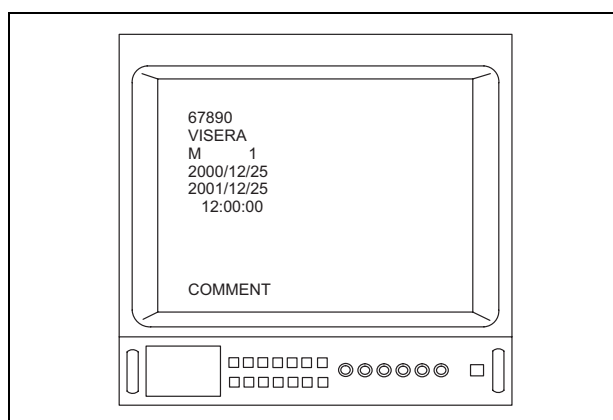

Figure 5.53
Press the “F2” key. Pressing this key toggles between display on and off. Then the patient data that is selected in “Selecting patient data to be displayed” on page 104 is displayed on the video monitor (see Figure 5.53).
Depending upon the OTV-S7V's settings, the menu shown in Figure 5.53 may appear different from that displayed on the video monitor.
7. Depress the menu switch “■” or the “Enter” key on the keyboard to enter all settings. Then the patient data that is selected in “Selecting patient data to be displayed” on page 104 is displayed (see Figure 5.53).